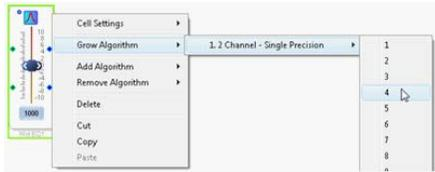

Figure 26. Growing the EQ Cell
11. By default, the EQ only has one band. To increase the number of bands, right click in the blank white part of the cell and select **Grow Algorithm > 1. 2 Channel – Single Precision > 4** to increase the EQ to 5 bands (see Figure 26).